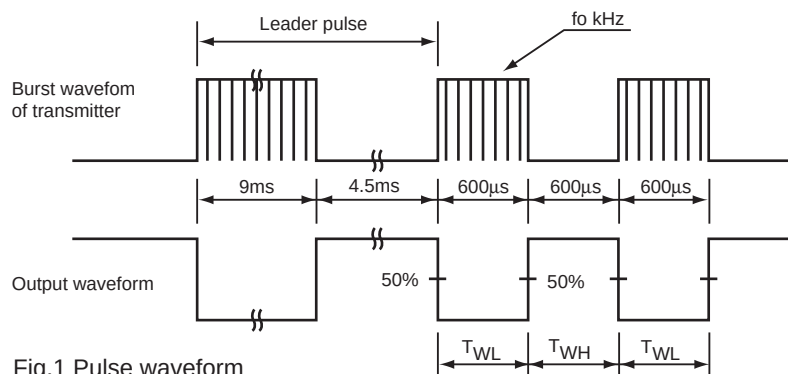
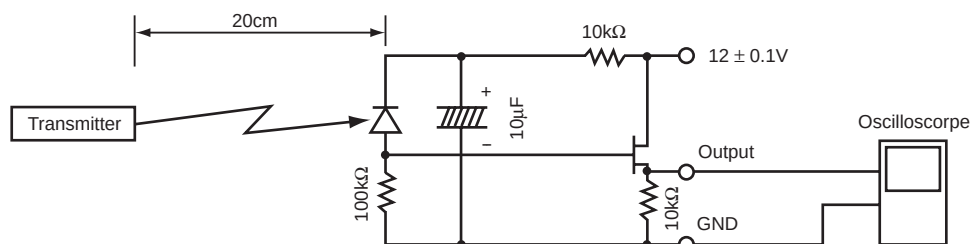

Fig.1 Pulse waveform
Fig.2 The output adjustment of transmitter
\*2 As shown in Fig.1, burst wave shall be transmitted by our transmitter in item 7. Detector face illuminance : Ee < 10 lx
The Transmitter shall be defined by adjusting the output of transmitter to make  $V_o=400mVp-p$  according to the burst wave shown in Fig. 1 and measurement condition shown in Fig.2. In addition infrared LED used in the transmitter is set to  $\lambda_{peak}=945nm$ ,  $\Delta\lambda=45nm$ , and photodiode used in the receiver is set to  $32nA / I_x$  ( $V_R=5.0V$ ).